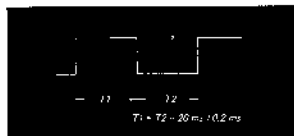

Fig. 7-5.
2. Adjust R437 so that T1 and T2 are 20 msec $\pm 0.2 \text{ msec}$ (50% duty cycle) as shown in Fig. 7-5.